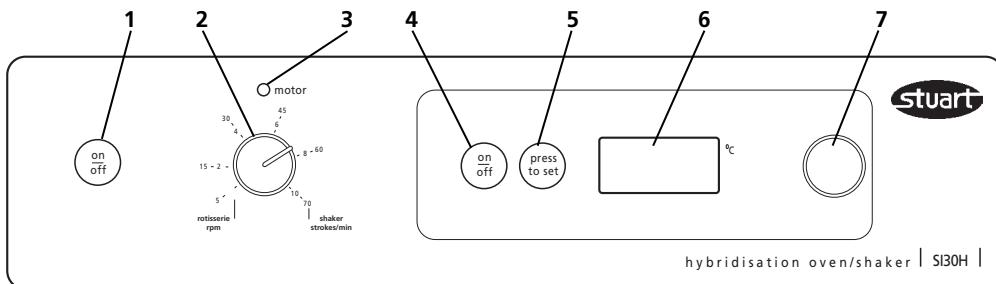

Fig 3: Front panel controls
- 5.6 The speed controls are on the left hand side of the control panel (numbers 1 to 3 in figure 3). Turn the rotisserie / shaker ON by pressing the on / off button (1). The red indicator light (3) above the speed selector dial (2) will illuminate.